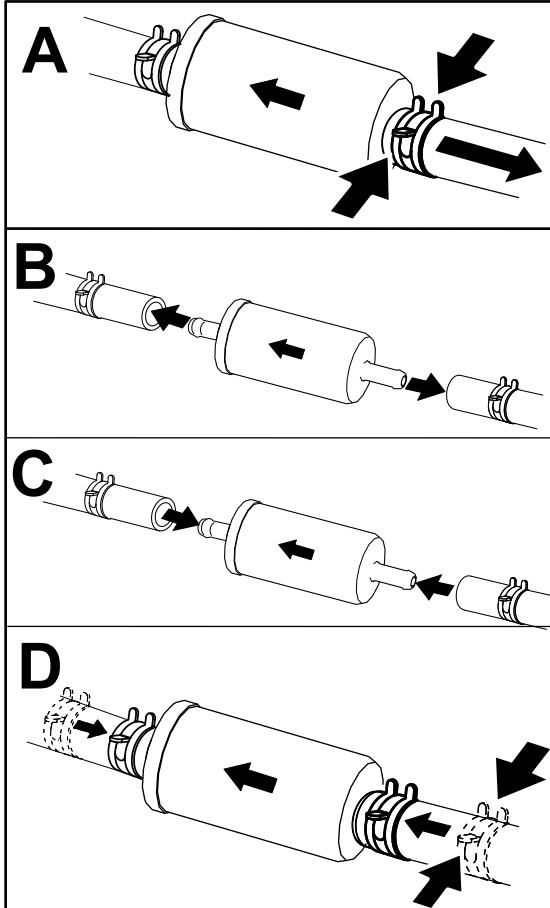

Figure 49
3. Replace the filter (Figure 49).